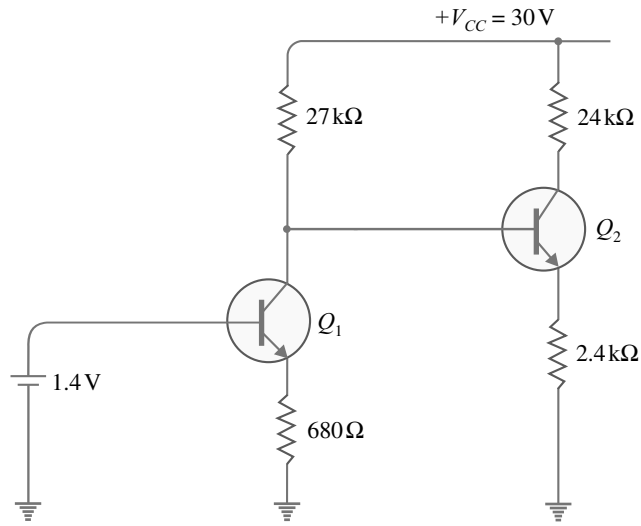

Fig. 9.30
**Example 9.31.** For the two-stage direct coupled amplifier shown in Fig. 9.30, find